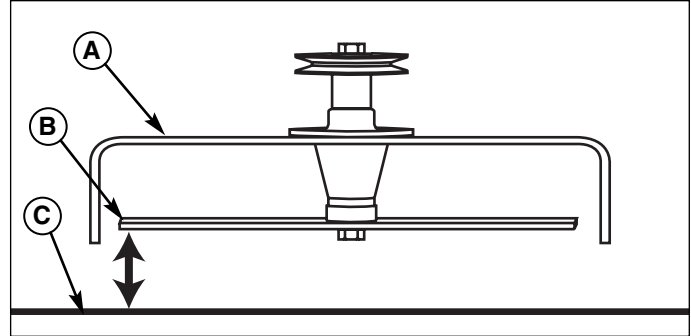

Figure 16. Measure Blade Tips to Ground
7. Measure the distance from the ground to the front tip of the center blade and from the ground to the rear tips of the rear blades (Figures 16 & 18). The front tip of the center blade should be 1/4" (6mm) higher than the rear tips of the rear blades. If not, proceed with steps 8 - 9.